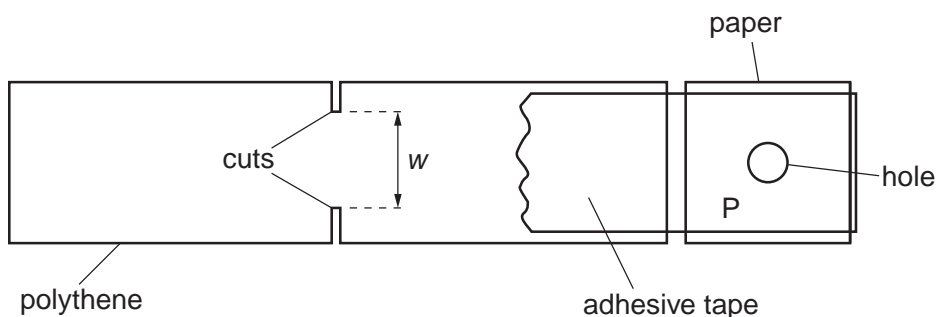

Fig. 2.1
- (b) Each strip has two cuts in it, as shown in Fig. 2.1.